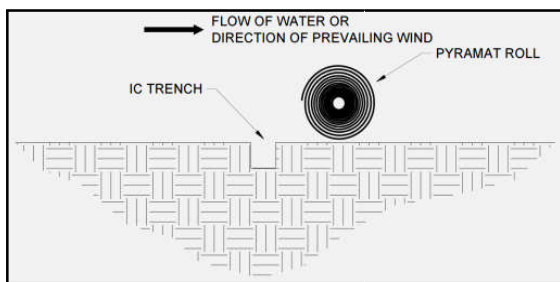
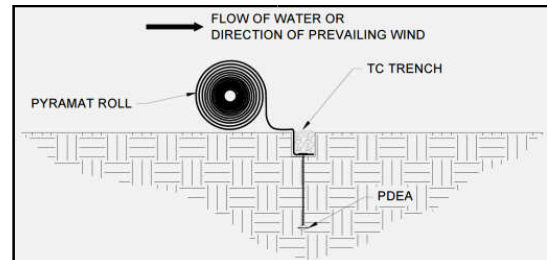
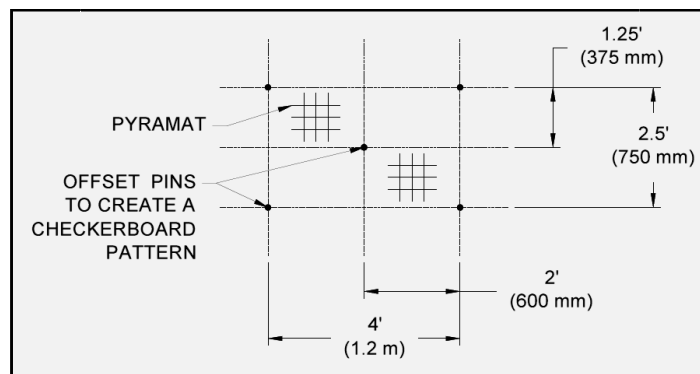
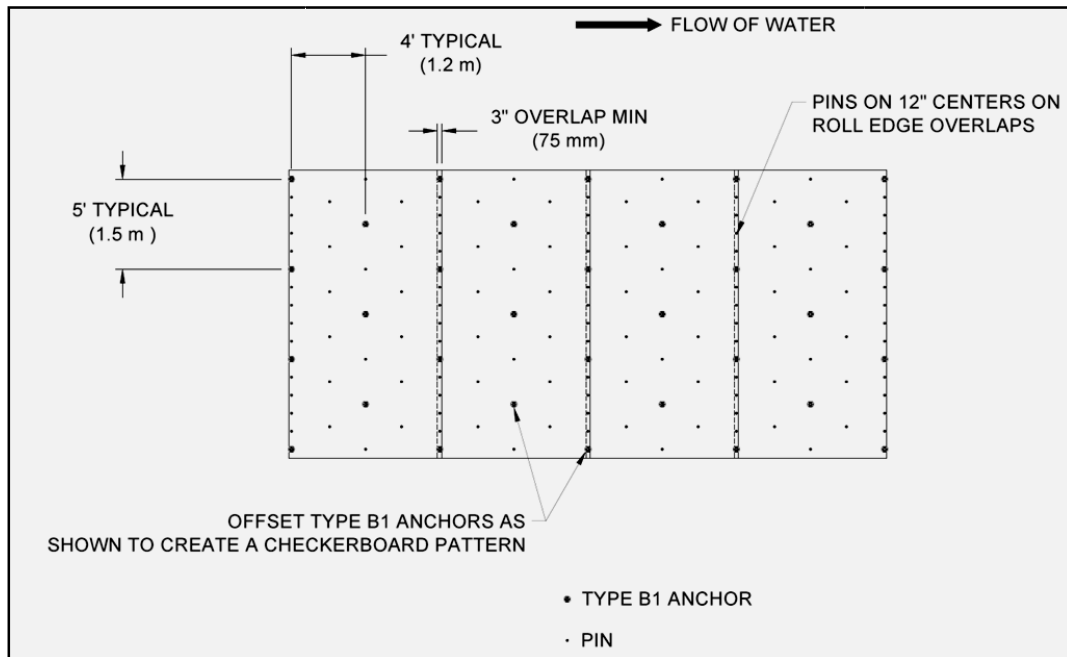

Figure 13: Initial Channel (IC) Trench Alignment
Figure 19: Terminal Channel (TC) Trench Placement
Figure 21: Example Pin Pattern
Figure 22: Example PDEA Pattern - 0.5 Anchors/ Yd2
2. Place the Pyramat panels by laying the Pyramat rolls on the downstream side of the IC trench so that the roll end points towards the IC trench (Figure 13), with a 3 inch (75 mm) overlap created at adjacent panel edge locations. Ensure that adjacent panel edges maintain a minimum 3 inch (75 mm) overlap during *Pyramat Laydown*. (Figure 22)
7. For channel lengths greater than the length of the Pyramat rolls available, place additional Pyramat panels by laying the Pyramat rolls on the upstream side of the TC trench so that the roll end points towards the TC trench (Figure 19), with a 3 inch (75 mm) overlap created at adjacent panel edge locations. Ensure that adjacent panel edges maintain a minimum 3 in (75 mm) overlap during *Pyramat Laydown*. (Figure 22)
10. Backfill and compact the TC trench in the location of the first Pyramat panel only (Figure 19).
13. Secure Pyramat panels in place using pins and PDEAs across the channel surface according to the project's engineered design. Pin and PDEA placement should reflect a staggered checkerboard pattern across the channel surface for best results (Figure 21 and Figure 22).
- Roll edges shall be overlapped a minimum of 3 in (75 mm) with pins placed on 12 in (300 mm) centers in between PDEAs on 5 ft (1.5 m) centers (Figure 22).